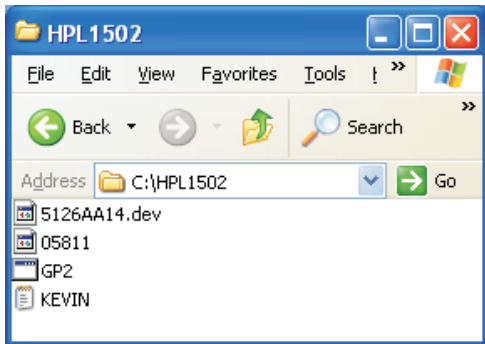

Fig. 2
- Step 1 : Make a folder in your PC as shown in Fig. 2.
- Step 2 : Copy ISP Software (HPL1502..zip) into your folder as shown in Fig.2.
- Step 3 : Unzip isp.zip into your folder as shown in Fig. 2.